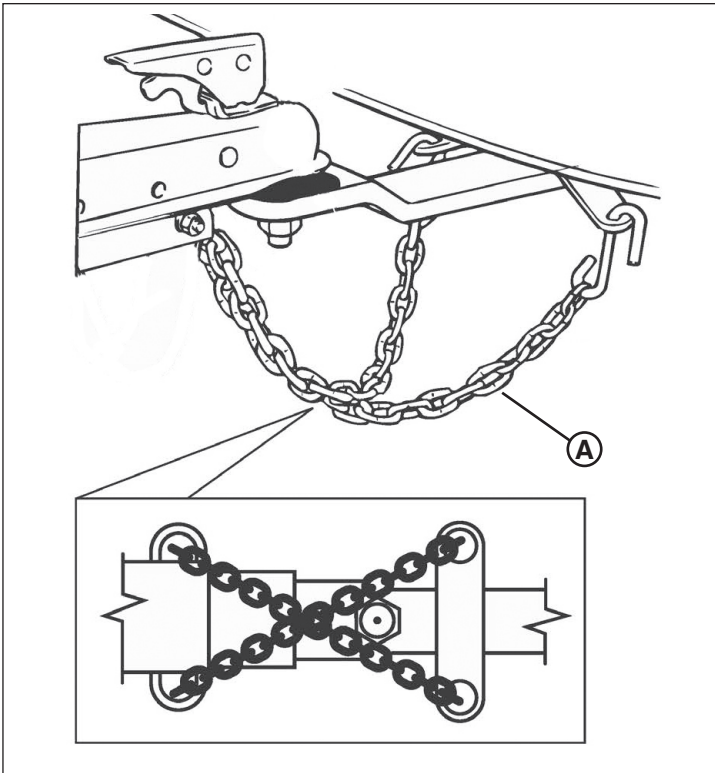

Figure 7
6. Attach the safety chains (**A**, Figure 7) to the tow vehicle's hitch frame. Cross the chains under the tongue as shown in Figure 7. Leave enough slack in the chains to allow for turns, but not so much that the chains will contact the road surface.